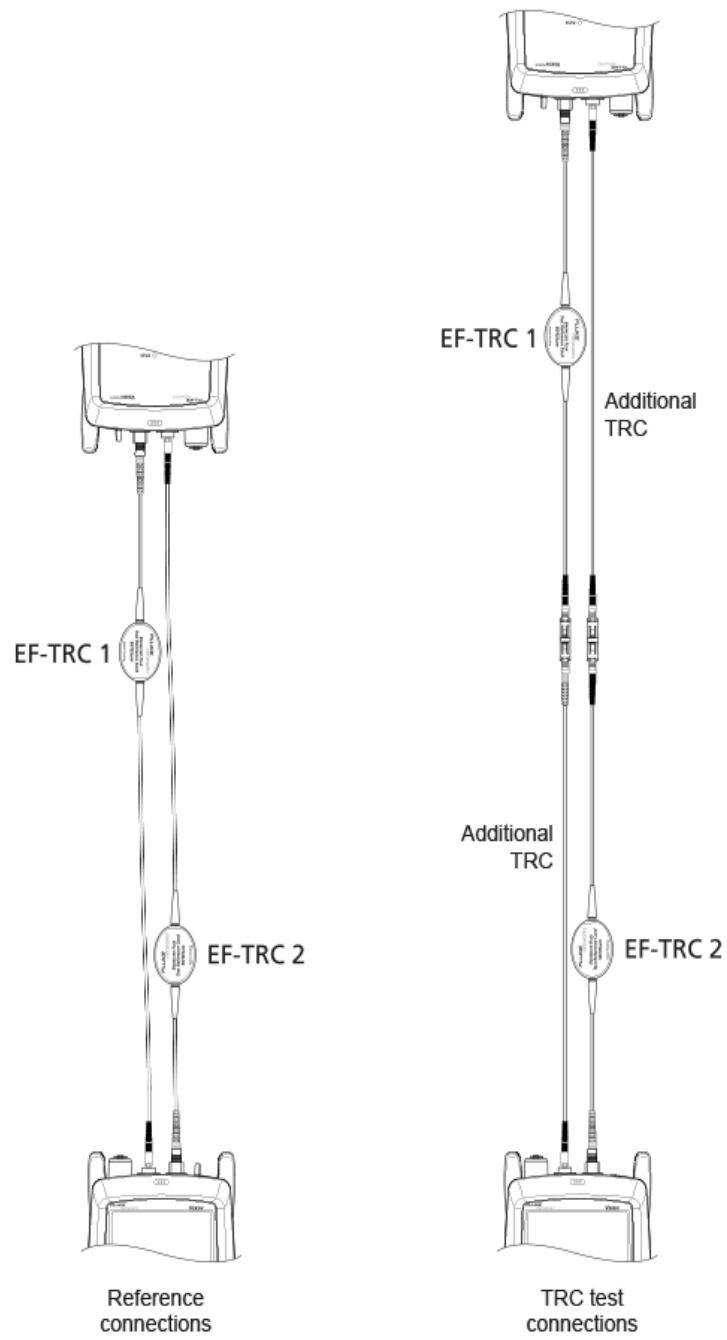

Figure 3. Reference and TRC Test Connections for Smart Remote Mode
- Make the connections to set the reference, as shown on the screen and in Figure 3, then tap **NEXT** to see the completed connections.
2. Disconnect the test reference cords from the INPUT ports on the tester and remote, then use test reference cords and adapters to make the connections to verify the TRCs, as shown on the screen and in Figure 3.